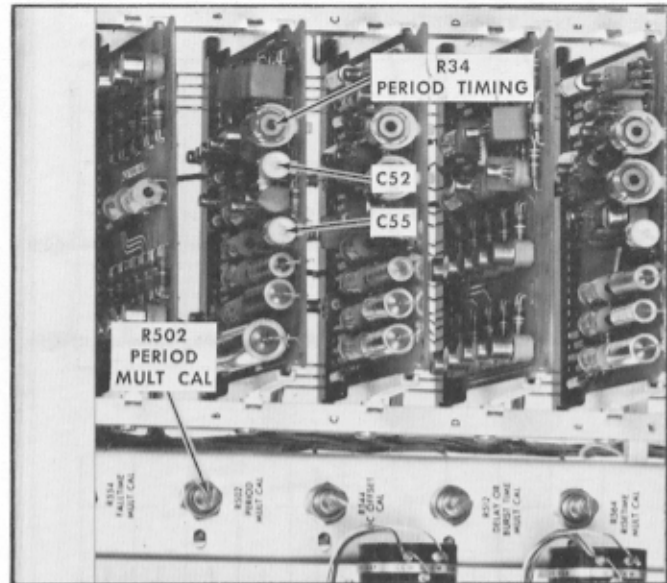

Fig. 7-38. Location of period timing adjustments on the Period Generator (Series B) card and the Type R116 chassis.
g. Adjust — R34 (PERIOD TIMING) on the Period Generator circuit card (Series B) if the display is not correct. See Fig. 7-38 for the location of R34.
l. Adjust — R502 (PERIOD MULT CAL) on the Type R116 chassis (see Fig. 7-38) if the display is not correct.
r. Adjust — C52 on the Series B card (see Fig. 7-38) if the display is not correct. Remove the adjusting tool from the capacitor while checking the display.
w. Adjust — C55 on the Series B card (see Fig. 7-38) if the display is not correct.